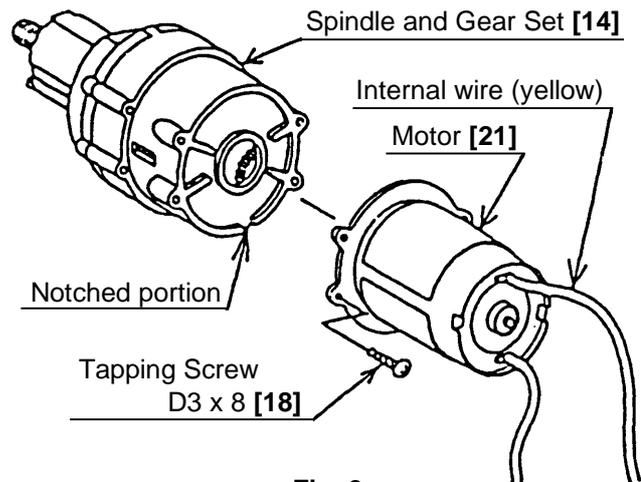

Fig. 9
(2) Connecting the Spindle and Gear Set [14] and the electrical components assembled as described in Para. (1)
When connecting the Spindle and Gear Set [14] and the electric components assembled as described in Para. (1) above, ensure that the colored lead wires soldered to the Motor [21] are correctly positioned with relation to the notched portion of the Spindle and Gear Set [14] before fastening the two sections with the four D3 x 8 Tapping Screws [18]. (See Fig. 9)